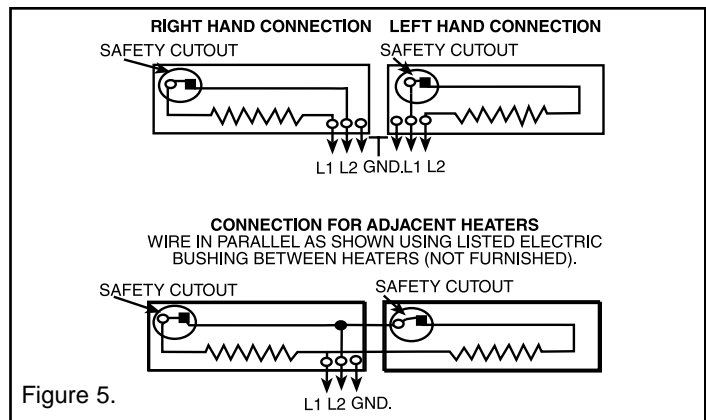

Figure 5.
- d. Wire heater according to Figure 5. Reattach the wireway cover using the two screws.
8. After making sure the electrical power coming to the heater is turned off at main switch panel follow the desired wiring diagram, as shown in Figure 5, to connect the power supply to the heater using approved wire nuts.